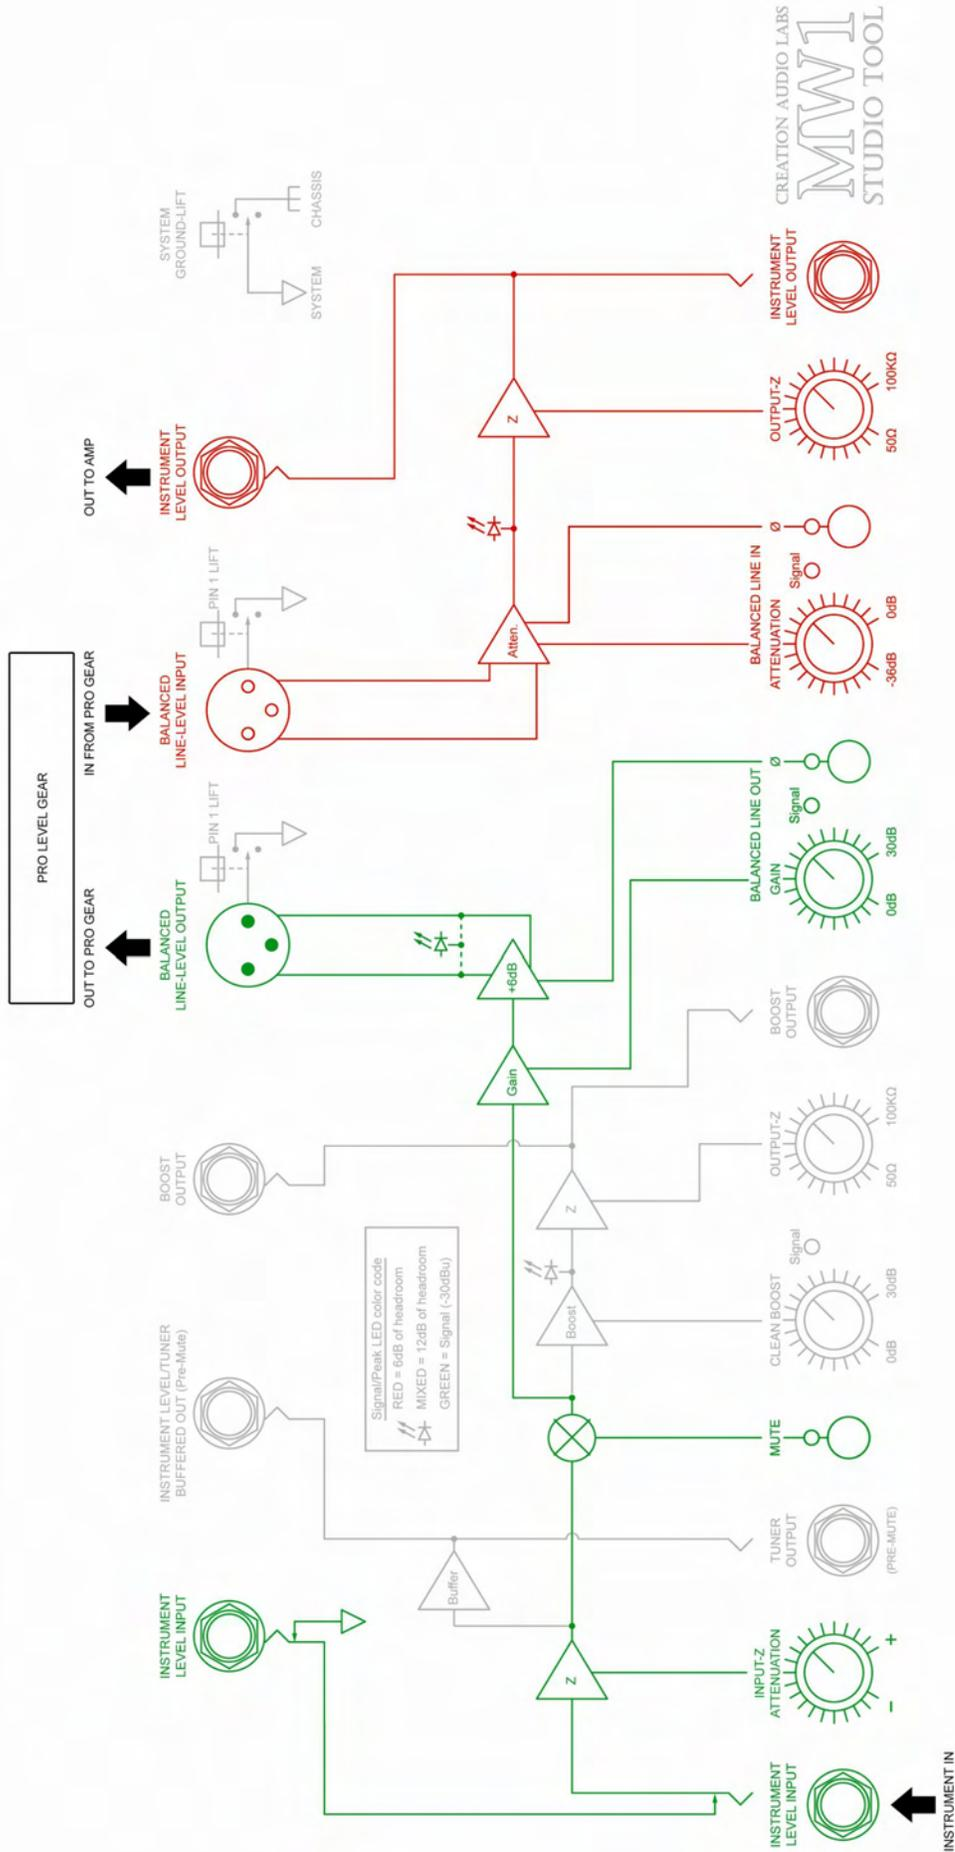

FIG. 6
- Pro level units in front of amplifiers. (FIG. 6)
- BALANCED LINE OUT GAIN** This control allows for up to 30dB of gain for the BALANCED LINE-LEVEL OUTPUT (DI output, male XLR on the rear panel). Additional gain can be added to lower signals, increase the gain to pro-level units in the event of using a pro unit in front of a guitar or bass amp (i.e. fig. 6 of the QUICK REFERENCE SHEET), or even to intentionally overdrive the input stage of the following unit. Remember that this control and the **INPUT ATTENUATION** control have direct influence on the sonic signature of the BALANCED LINE-LEVEL OUTPUT (DI output).